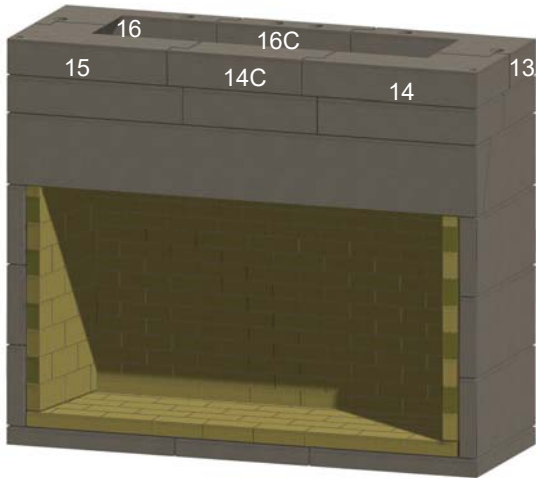

Figure 15. Middle Throat Level
J. Install second ring of four throat components (Items 13, 14, 14C, 15, 16 and 16C). Check with a level. See Figure 15.